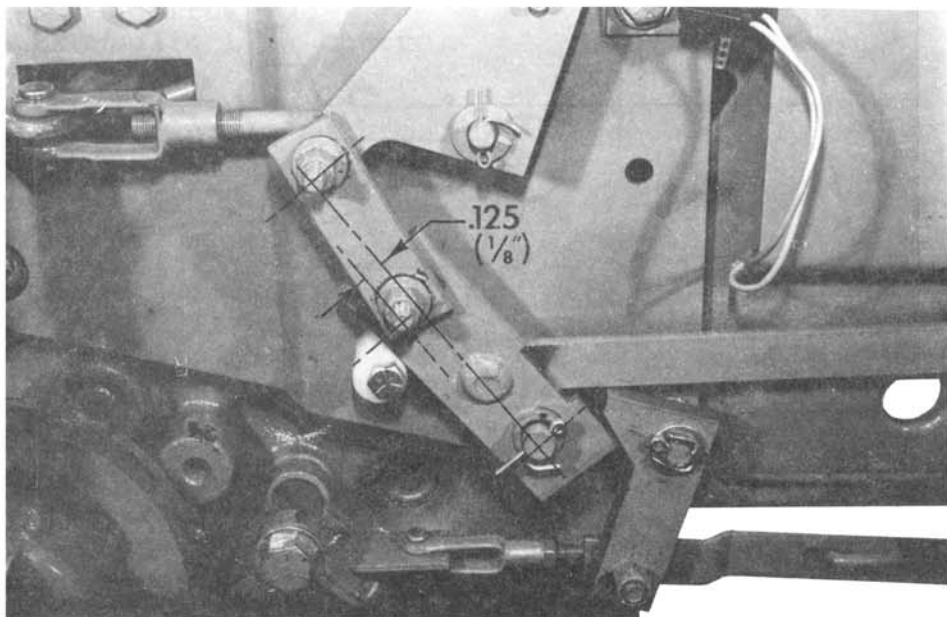

FIGURE 11
- e. Cam bushing adjustment: Loosen retaining bolt and rotate the bushing until the linkage goes over center .125". See Figure 11. Retighten the bolt.